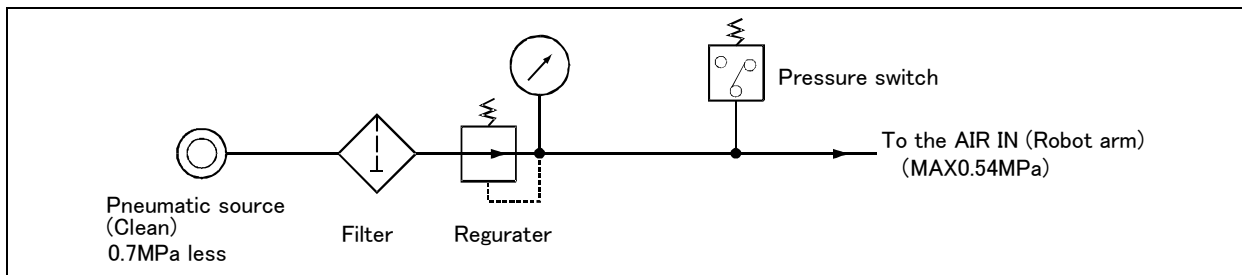

Fig.2-9 : Air supply circuit example for the hand
Fig. 2-9 shows an example of pneumatic supply circuitry for the hand.
- (1) Place diodes parallel to the solenoid coil.
- (2) When the factory pneumatic pressure drops, as a result of the hand clamp strength weakening, there can be damage to the work. To prevent it, install a pressure switch to the source of the air as shown in Fig. 2-9 and use the circuit described so that the robot stops when pressure drops. Use a hand with a spring-pressure clamp, or a mechanical lock-type hand, that can be used in cases where the pressure switch becomes damaged.
- (3) The optional hand and solenoid valve are of an oilless type. If they are used, don't use any lubricator.
- (4) Supply clean air to the vacuum generation valve when you use clean type robot.
- (5) If the air supply temperature (primary piping) used for the tool etc. is lower than ambient air temperature, the dew condensation may occur on the coupling or the hose surface.